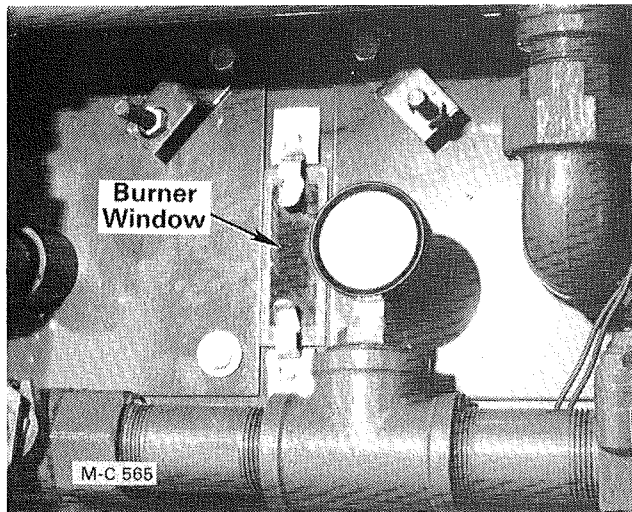

Figure 16
3. Observe the burner flame through the window behind the gas manifold, see Figure 16. The flame should be blue with a little bit of orange in it and have a bushy ball shape.